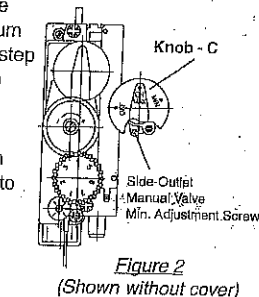

Figure 2
- Combination control is shipped with the side-outlet manual valve set at maximum flow. If adjustment is required perform step g., and then set the manual valve knob (Knob - C, Figure 2) to the minimum position.
Turn side-outlet manual valve minimum adjustment screw (Figure 2) clockwise to decrease flow.